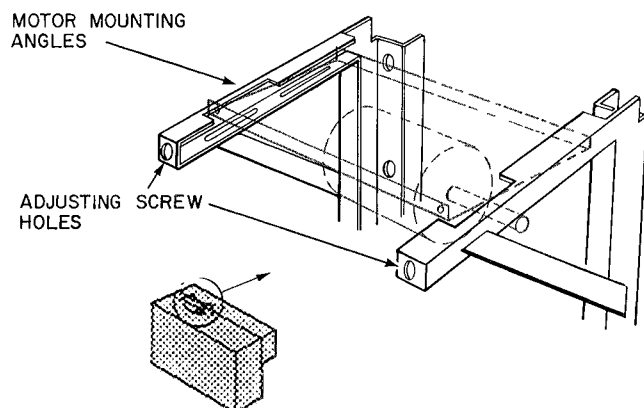

**Fig. 4 — 50BJ,BK028 and 034 Horizontal
1. Fasten motor mounting angle bracket to fan section. Use Fig. 2 or 3 for position reference and Fig. 4 for assembly guidance. Be sure that lips of angle brackets are around fan section frame and that slots for motor mounting plate face each other.
3. Lift motor-plate assembly and slide into motor mounting angles as shown in Fig. 4. Plate fits in angle slots. On vertical mounts, the motor mounting assembly can be lowered to bottom of motor support channels.